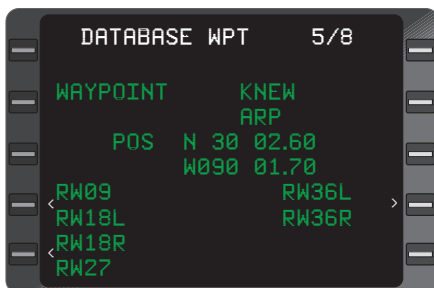

Figure 2-81
- If the airport shows a 3 letter IDENTIFIER, add the correct ICAO prefix letter. Example: **NEW** (New Orleans Lake Front) add a "K" prefix and enter **KNEW** (Figure 2-81).